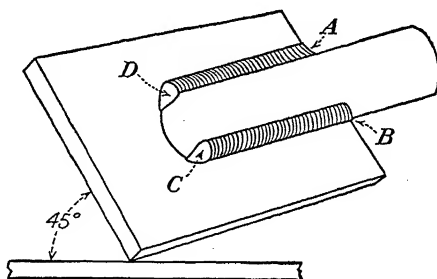
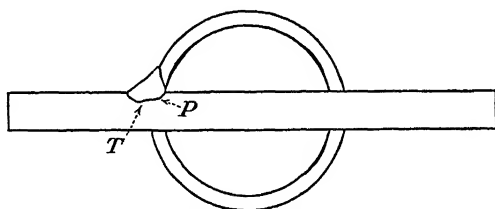

FIG. 65.—Tube and plate weld.
FIG. 66.—End view of tube and plate weld.
0.065 in. tubing, about 1 in. in diameter and 5 in. in length. Saw a slot in the tube 3 in. long and $\frac{3}{8}$ in. wide. Slip the tube over the $\frac{1}{4}$ in. plate (Fig. 65). Slip a $\frac{1}{16}$ in. welding rod under the tube to space it from the plate and to facilitate welding.
Using a No. 3 welding tip and a $\frac{3}{32}$ -in. copper-coated mild-steel rod, preheat the entire plate to a bright red before beginning to weld. Keep the tube as cool as possible. Tack the weld at points A, B, C, D (Fig. 65). Use small tacks.
To aid in controlling the weld puddle and in securing full penetration, turn the tube and plate up on the side, with the plate at a 45-deg. angle from the bench (Fig. 65). The weld must be fused into the plate and tube without leaving an undercut or rolled edge. The penetration must be between 25 and 40 per cent at point T (Fig. 66)
Make the first weld from *A* to *D* (Fig. 65) with the plate tipped. The junction between the tube and plate is plainly visible. Hold the torch so that the welding tip is straight with the line of travel and pointing into the joint at a 30-deg. angle in order that the weld may be driven under the tube. Hold the welding rod against the edge of the tube, feeding it into the puddle from the tube side. The welding rod protects the tube from melting too rapidly.
Preheat the plate after tack welding. If possible, use another torch to keep the plate hot during welding. Make the weld from *A* to *D* (Fig. 65). Build up a small puddle at point *A*. Move the torch forward for $\frac{1}{2}$ in., melting deeply into the plate just under the tube. As the torch moves forward, the outside edge of the tube melts back until the inside edge is exposed. Do not break through the tube, but move back to the beginning and, dropping the rod into the puddle, advance along the line of travel, using the crisscross stroke. The side motion of the welding rod keeps the deposit full along the top edge of the weld on the tube side, preventing undercuts. The rod aids in feathering the weld into the plate, thus preventing undercuts or overlap. Keep the plate preheated at all times. Keep the tube melting back and the plate melting and flowing ahead of the advancing weld to ensure perfect fusion and penetration. It may be necessary at intervals to lift the rod from the puddle or hold it tightly against the tube, allowing the torch flame to play on the area ahead of the weld to bring it to the welding heat.
Carry the weld to point *D* (Fig. 65). Tilt the plates in the other direction and weld from *B* to *C*. The same welding technique is used on this side as from *A* to *D*. More care must be exercised on the side from *B* to *C* to prevent burning through the tube. Keeping the welding rod close to the tube and carrying the weld slightly ahead on the plate side will aid in equalizing the melting rate of the tube and the plate. When the weld is completed to point *C*, turn the plate over, remove the scale, and weld both sides of the tube to the plate. This side will require more welding heat, for the addition of weld metal has increased the size of the plate.
be certain that it is penetrating into the plate and tube to the correct distance (Fig. 66).